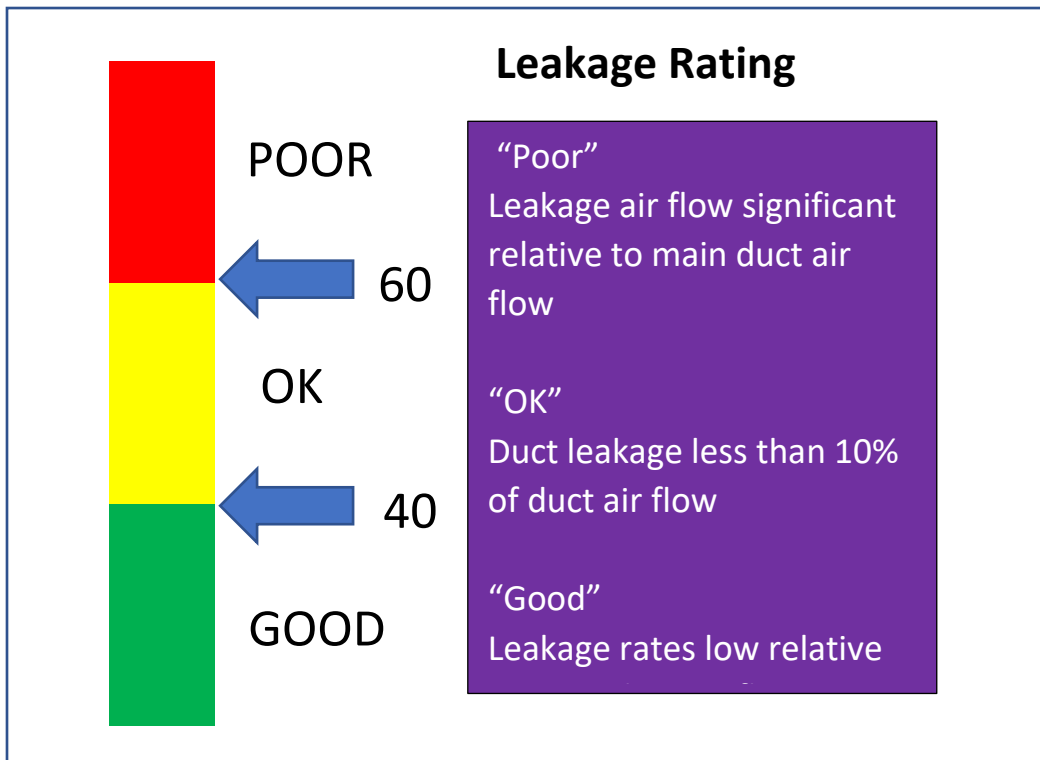

Figure 2 Duct leakage test scale.
- 5) Figure 2 describes the leakage of the duct system. C values less than 40 indicate well sealed ducts while C values greater than 60 indicate excessive air leakage.